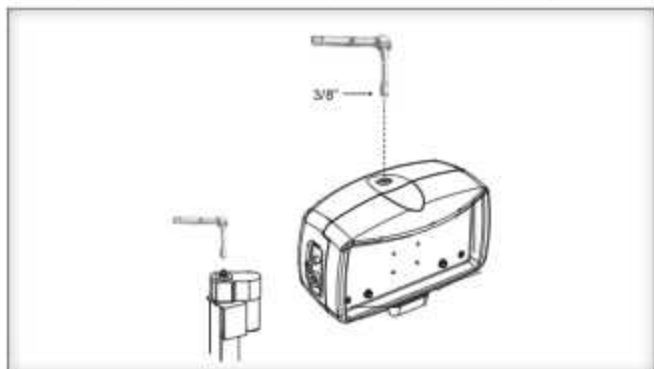

Figure 10-3
3. Insert a 3/8" socket wrench into the actuator and rotate the Hex Shaft. [Figure 10-3]